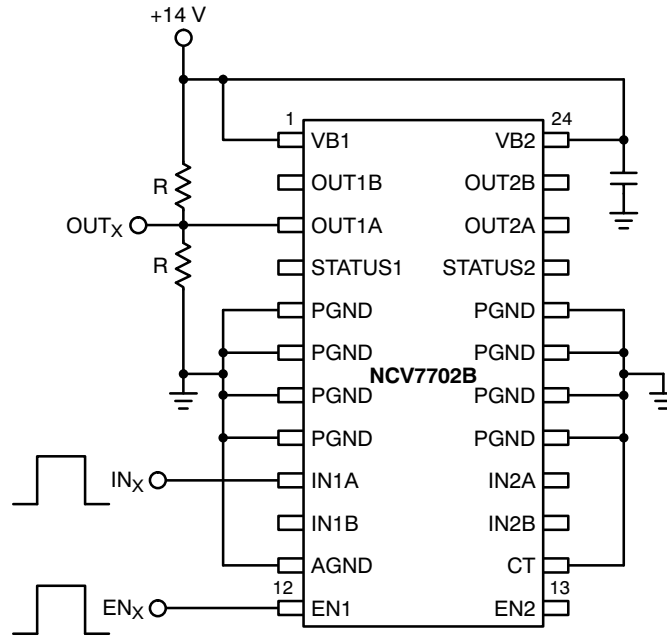

Figure 2. Propagation Delay and Dead Band Timing Test Circuit
4. See Figures 2 and 3; V_B = 14 V, R = 100 Ω.
6. See Figures 2 and 4; V_B = 14 V, R = 100 Ω.